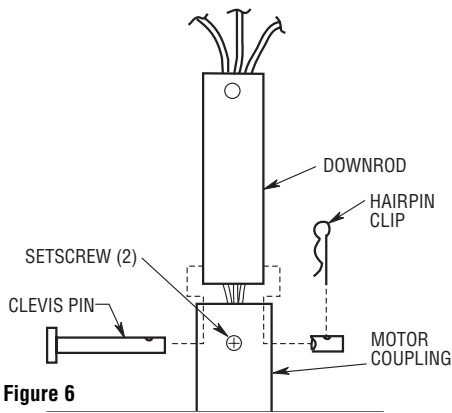

Figure 6
- 13. Loosen setscrew in motor coupler if necessary. Separate, untwist and unkink the three 80" motor leads. Route the motor lead wires through the downrod. Align the clevis pin holes in the downrod with the holes in the motor coupler. Install the clevis pin and secure with the hairpin clip (Figure 6). The clevis pin must go through the holes in the motor coupler and the holes in the downrod. Be sure to push the straight leg of the hairpin clip through the hole near the end of the clevis pin until the curved portion of the hairpin clip snaps around the clevis pin. The hairpin clip must be properly installed to prevent the clevis pin from working loose. Pull on the downrod to make sure the clevis pin is properly installed.
It is critical that the clevis pin in the motor coupler is properly installed and the setscrew securely tightened. Failure to verify that the pin and setscrew are properly installed (as shown in Figure 6) could result in the fan falling.